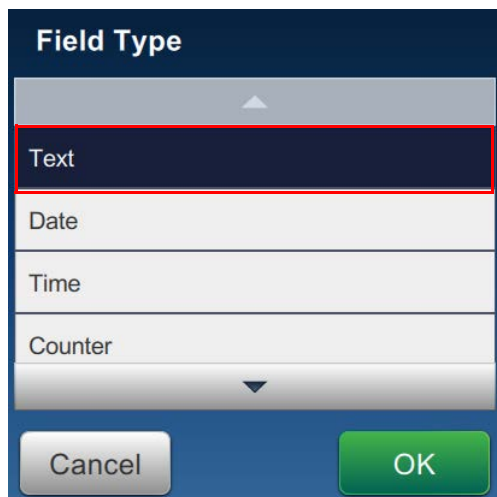

Figure 3-6: Field Type Screen
5. Touch the *Text* option from the Field Type drop down list to insert a text field and touch the *OK* button as shown in Figure 3-6.